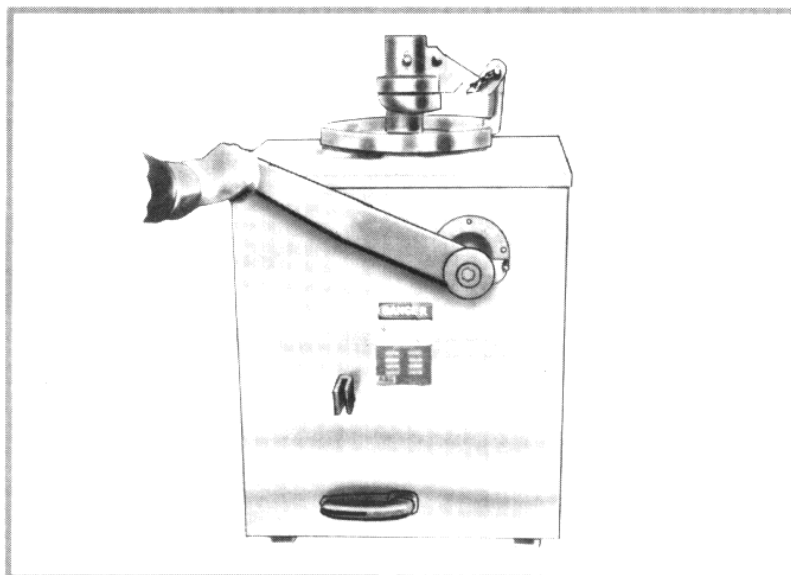

Fig. 2. Manual operation.
f. Insert the operating handle and manually crank the motor operator (Fig. 2) until the notch in the fixed coupling is over the imaginary line for the CLOSED position.